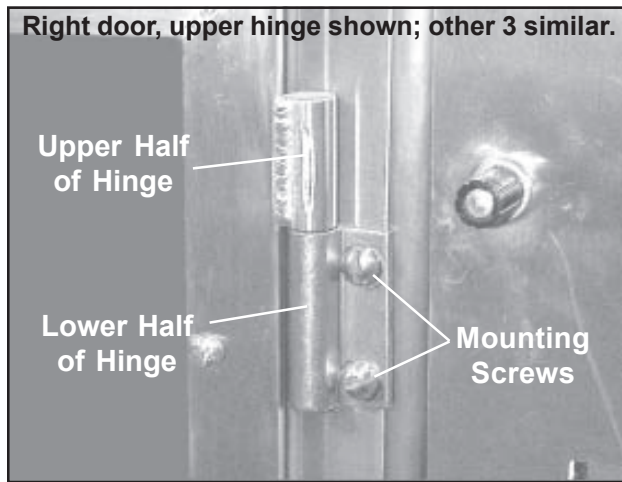

Figure 83. Door Hinge and Mounting Screws
2. Grasp the door firmly and lift up until the upper halves of both door hinges come free of the lower halves (Figure 83).
1. Hold the hinge in place and loosely secure with the two mounting screws but do not tighten the screws down yet (Figure 83).